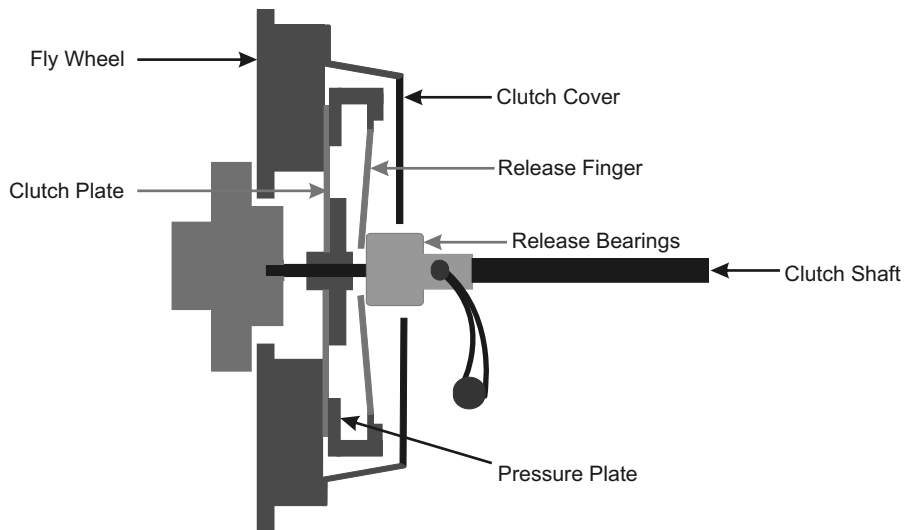

Figure 1.2 Working of single plate clutch system
- As shown in fig. 1.2 clutch cover is bolted to flywheel & clutch plate is mounted on splined part of clutch shaft.